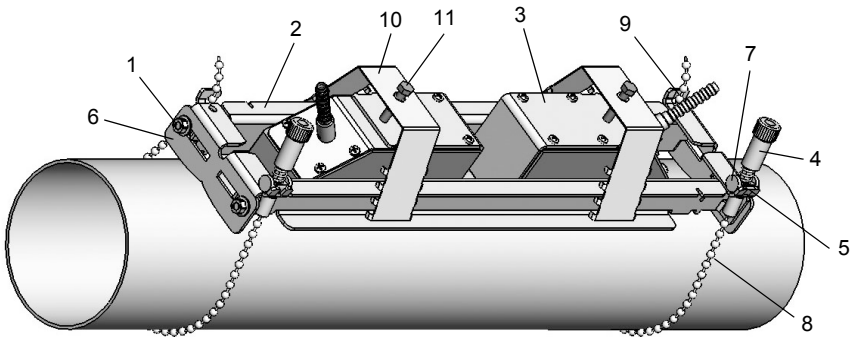

Fig. 6.4: Variofix rail with chains
- Loosen the 4 screws (1) for the adjustment of the rails (2) with a M8 wrench (see Fig. 6.4).
- Place one transducer (3) in the center between the rails.
- Press the two rails (2) together and tighten the 4 screws (1). The transducer can be shifted and removed.
- Loosen the chain tensioners (4), but do not unscrew them completely.
- If the chain has not yet been mounted to the rail support (6):
- Force apart the legs of the spring clip (10) and clamp it over the outer side of the rails (2). The height where the spring clip will snap in depends on the height of the transducer.
- Place the transducer between the rails (2). Observe the mounting direction (see Fig. 9.1 and Fig. 6.4).
- Push the spring clip (10) over the transducer until the knurled screw (11) is positioned over the blind hole of the transducer.
- Fix the transducer by tightening the knurled screw by hand (11).
- Adjust the transducer distance by loosening the knurled screw (11) of a spring clip (10) and shifting the transducer.